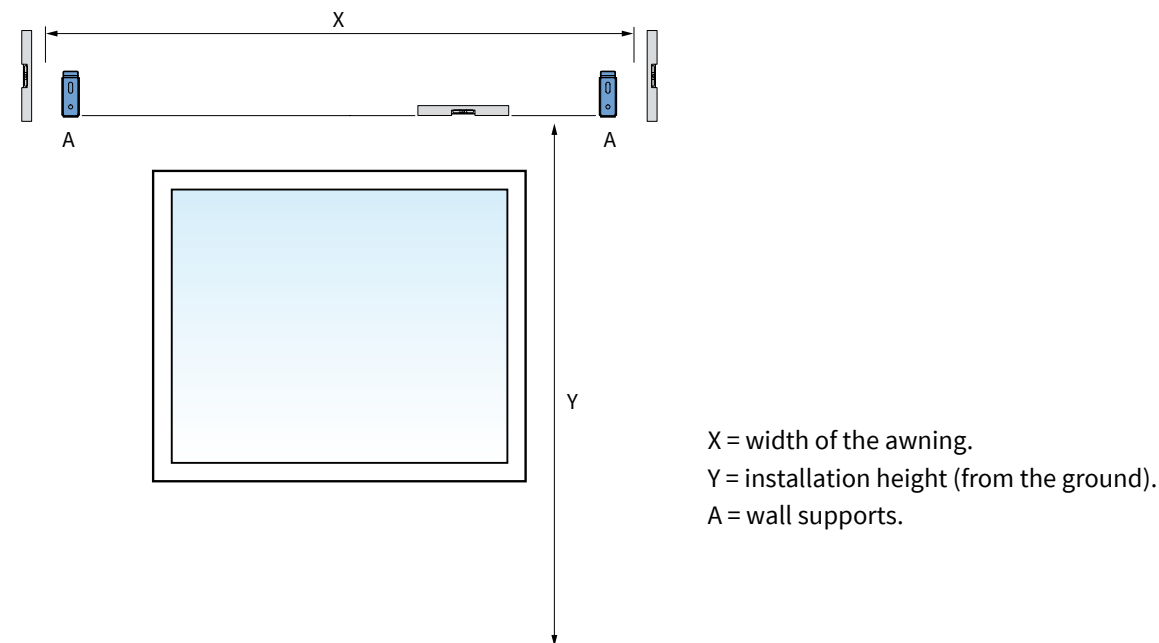

Figure 1.2 Installation of the wall supports.
Mark the holes for the wall supports (A). These holes need to be aligned level, horizontal and vertical. See figure 1.2.